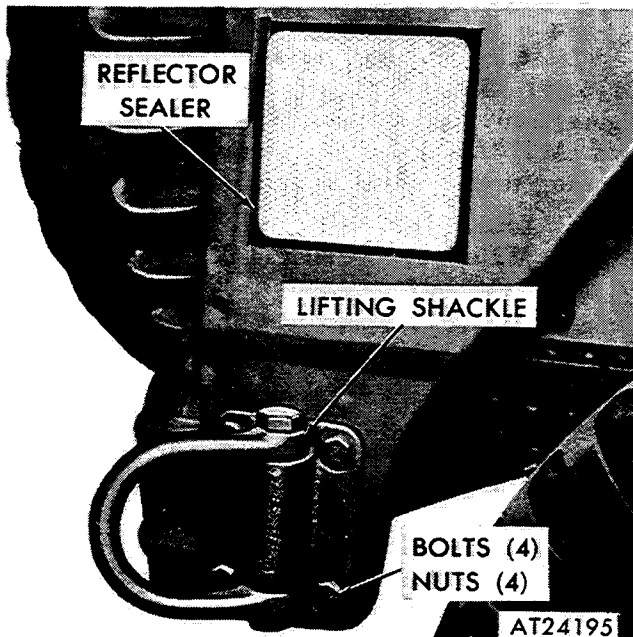

Figure 2-397. Removing or installing rear lifting shackle assemblies. (M825, M151A2, and M718A1 vehicles.)
(3) Smooth down stick-on reflector in place by rolling across it with hands so any air bubbles that might be forming underneath are worked out.
(4) Apply sealer (11614197) completely around edge of reflector ( $\frac{1}{4}$ " off edge) as shown in figure 2-397.
(1) Remove cover plate and rear light assembly from vehicle. Refer to paragraph 2-90 b.
(2) Remove four nuts and bolts securing lifting shackle and bracket assembly to vehicle (fig. 2-397).